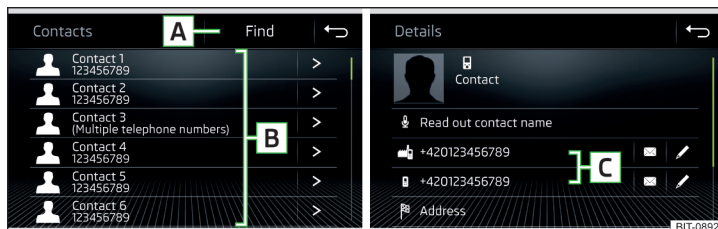

Fig. 208 List of telephone contacts / contact details
- › In the *Telephone* main menu, tap on the function surface **☑** and a list of telephone contacts will be displayed » Fig. 208.